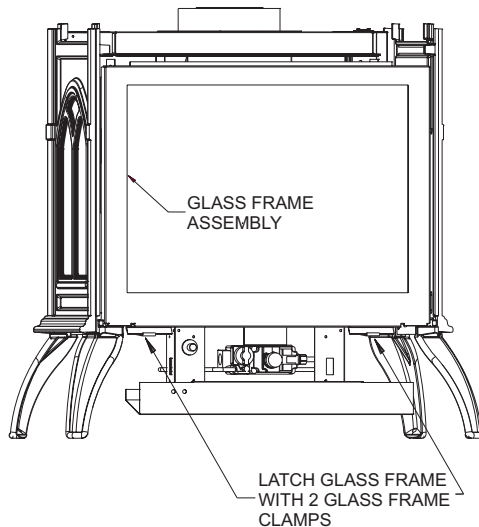

Figure 10
3. Carefully remove glass door. See Figure 10.